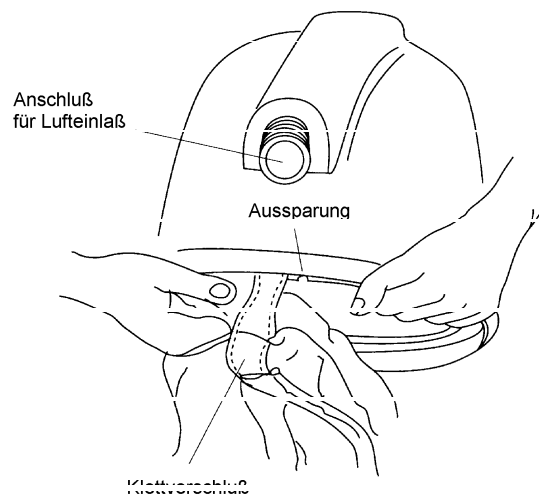

Figure 4: Detaching the cape
(1) Open the velcro fastener on the cape.	See Figure 4.
(4) Close the velcro fastener on the cape.	See figure 4.